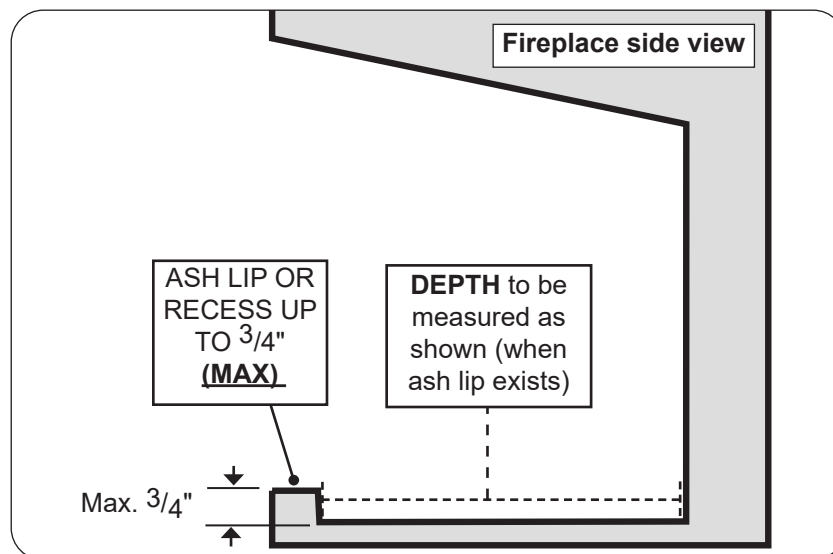

Fig. 5-1 Ash lip/recess detail
* These required widths allow for centering of the unit. † Rear width is at corresponding depth. ‡ If an ash lip exists, the depth requirement begins inside of the lip (see Fig. 5-1 below).